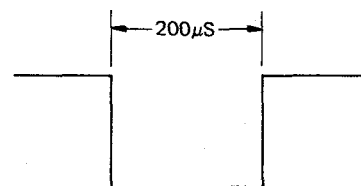

Figure 102.
1. Put the set in play (DS) mode.
2. Observe the output of I2005 (pin ⑦) on oscilloscope (external trigger, I2003, pin ⑧ ⊕), and adjust R2028 (FV control) so that the resultant level will be shown in Fig. 102.